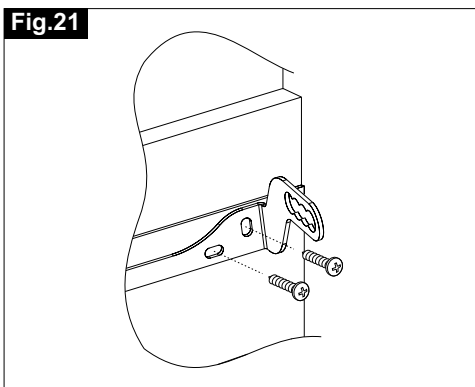
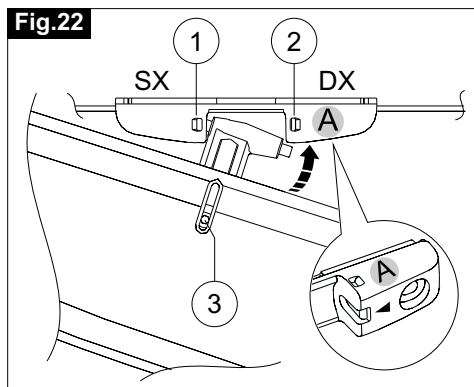

Fig.22
Fig.23
- 9) **Fig.22**- Loosen the chain end adjustment screw (**Ref.3**) and connect the actuator to the semi-automatic coupling inserting the chain adjustment end first of all in the left connection point (**Ref.1**) and then in the right connection point (**Ref.2**);
- 10) **Fig.23**- Using the two supplied screws (**Ref.1**) tighten the actuator to the window frame connection bracket in the most suitable position according to the value of the overlapped part "D" (see **Fig.6**) and tighten the chain end adjustment screw (**Fig.22-Ref.3**);